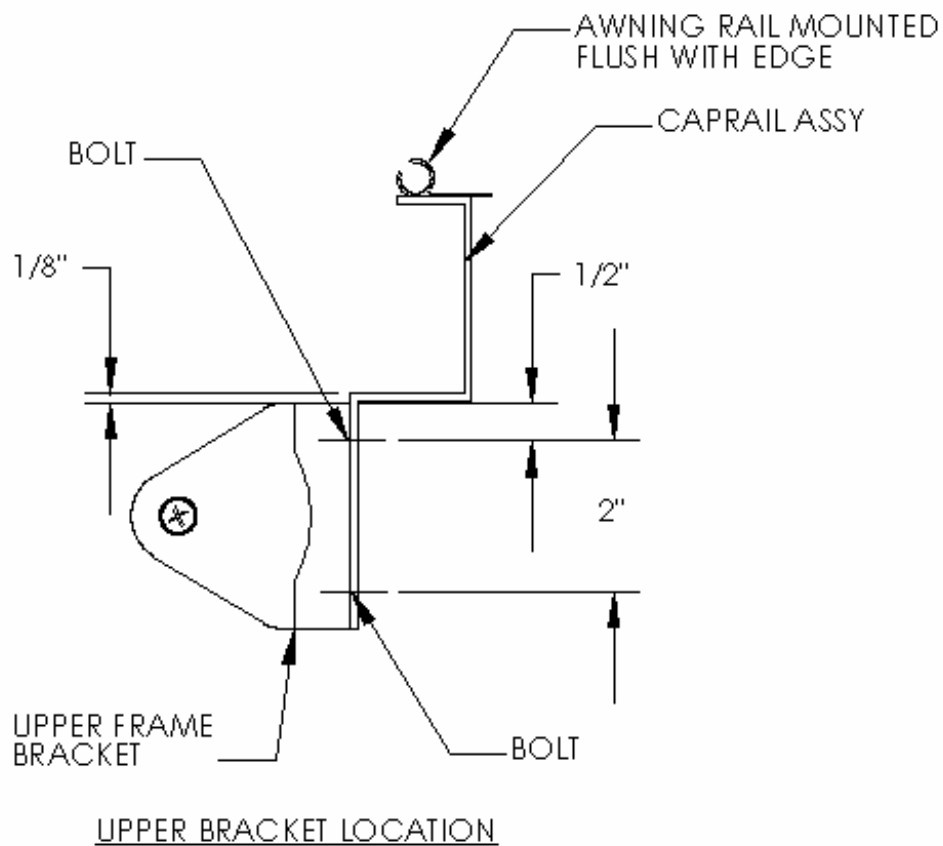

Figure 4 – Upper Bracket Mounting Detail
- Using brackets as a template (**Fig. 3**), mark location of upper bracket mounting holes to be drilled. Note that only the upper and lower holes are used for mounting the upper bracket. The middle hole is not used. Upper SST internal trim and lights (if equipped) may have to be removed. **Fig. 4**